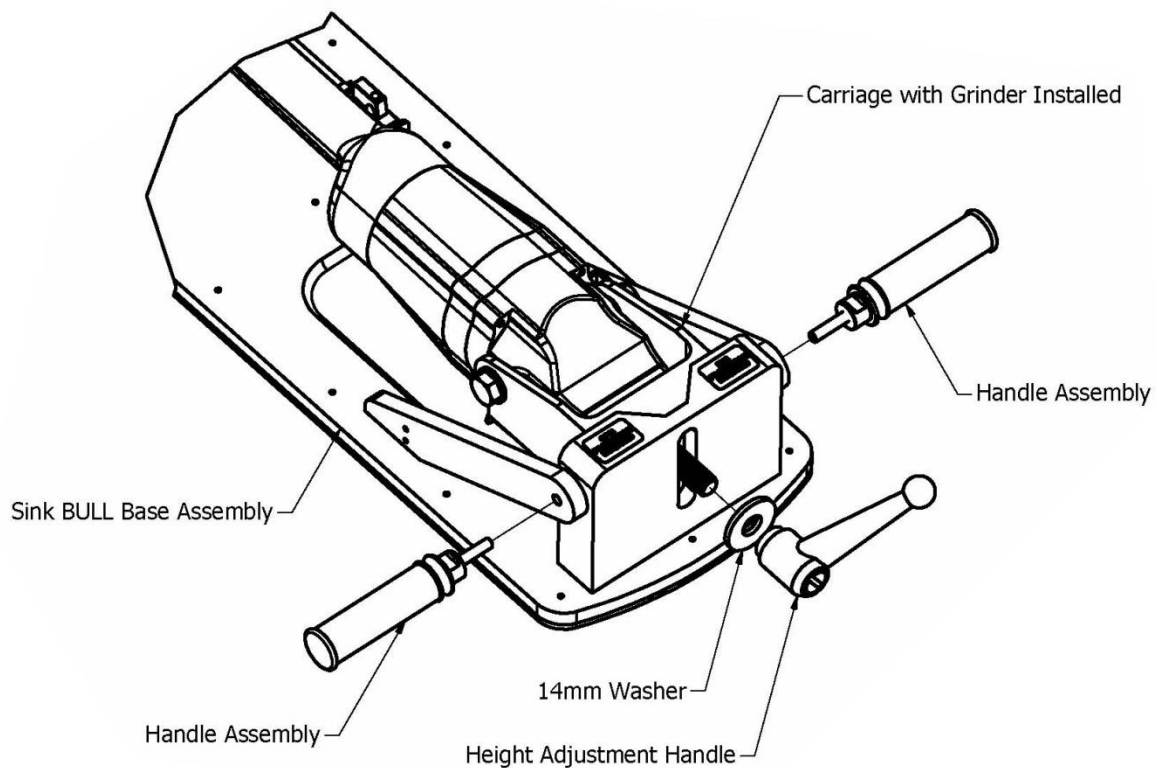

FIGURE 5 - Install Carriage and Handles
11. Place the "V" nose of the carriage assembly (with the grinder installed) into the "V" notch of the base assembly with the 5/8" bolt protruding through the slot (see Figure 5).
12. Place the 5/8" washer over the bolt and install the height adjustment handle by hand tightening it onto the 5/8" bolt (see Figure 5).
14. Using a 5/8" open end wrench or Crescent wrench, tighten the handle assemblies into place on each side of the Sink BULL™ as shown (see Figure 5).
- a. Remove the height adjustment handle and washer (see Figure 5).
- e. Re-assemble (see Figure 5).